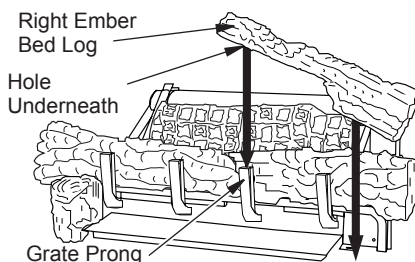

Figure 42 - Installing Right Ember Bed Log
- The right ember bed log 24" & 30" (D-047) has a hole in the log that sets on the grate finger and the other end rests on the fireplace floor, place log as shown in Figure 42. The right ember bed logs for 18" (D-072) has a groove on the side that sets on the ember bed pan and the back of the log needs to rest against the front of the base. Make sure the flame from the ember pan does not touch the ember bed log. The back side of this log needs to rest against the front of the base assembly, make sure the flame from the ember pan does not touch the ember bed log.